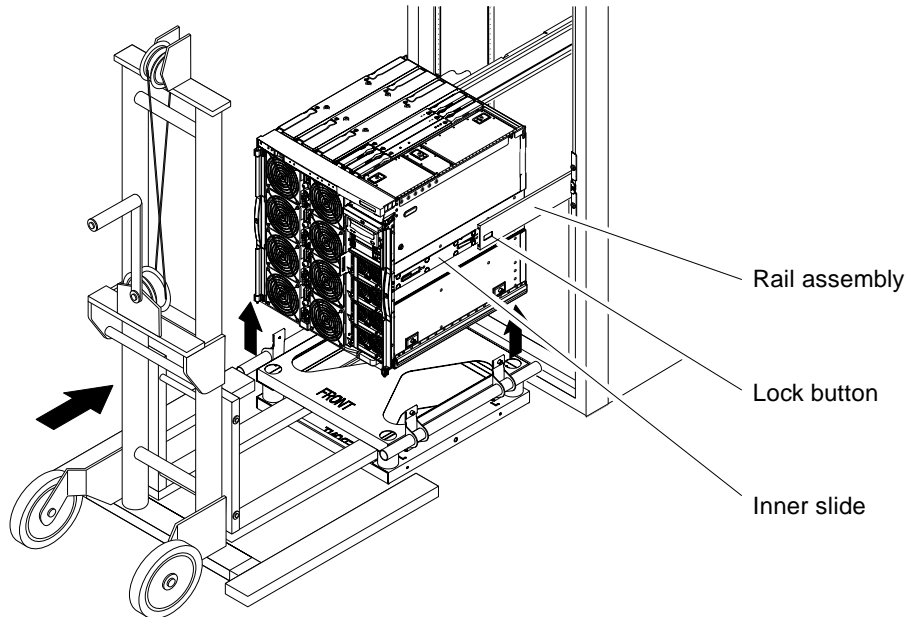

FIGURE 6 Unlocking an Inner Slide Button
13. With the system safely supported, press the silver-colored slide lock buttons (FIGURE 6) on the right and left rail assemblies, and pull the system free.